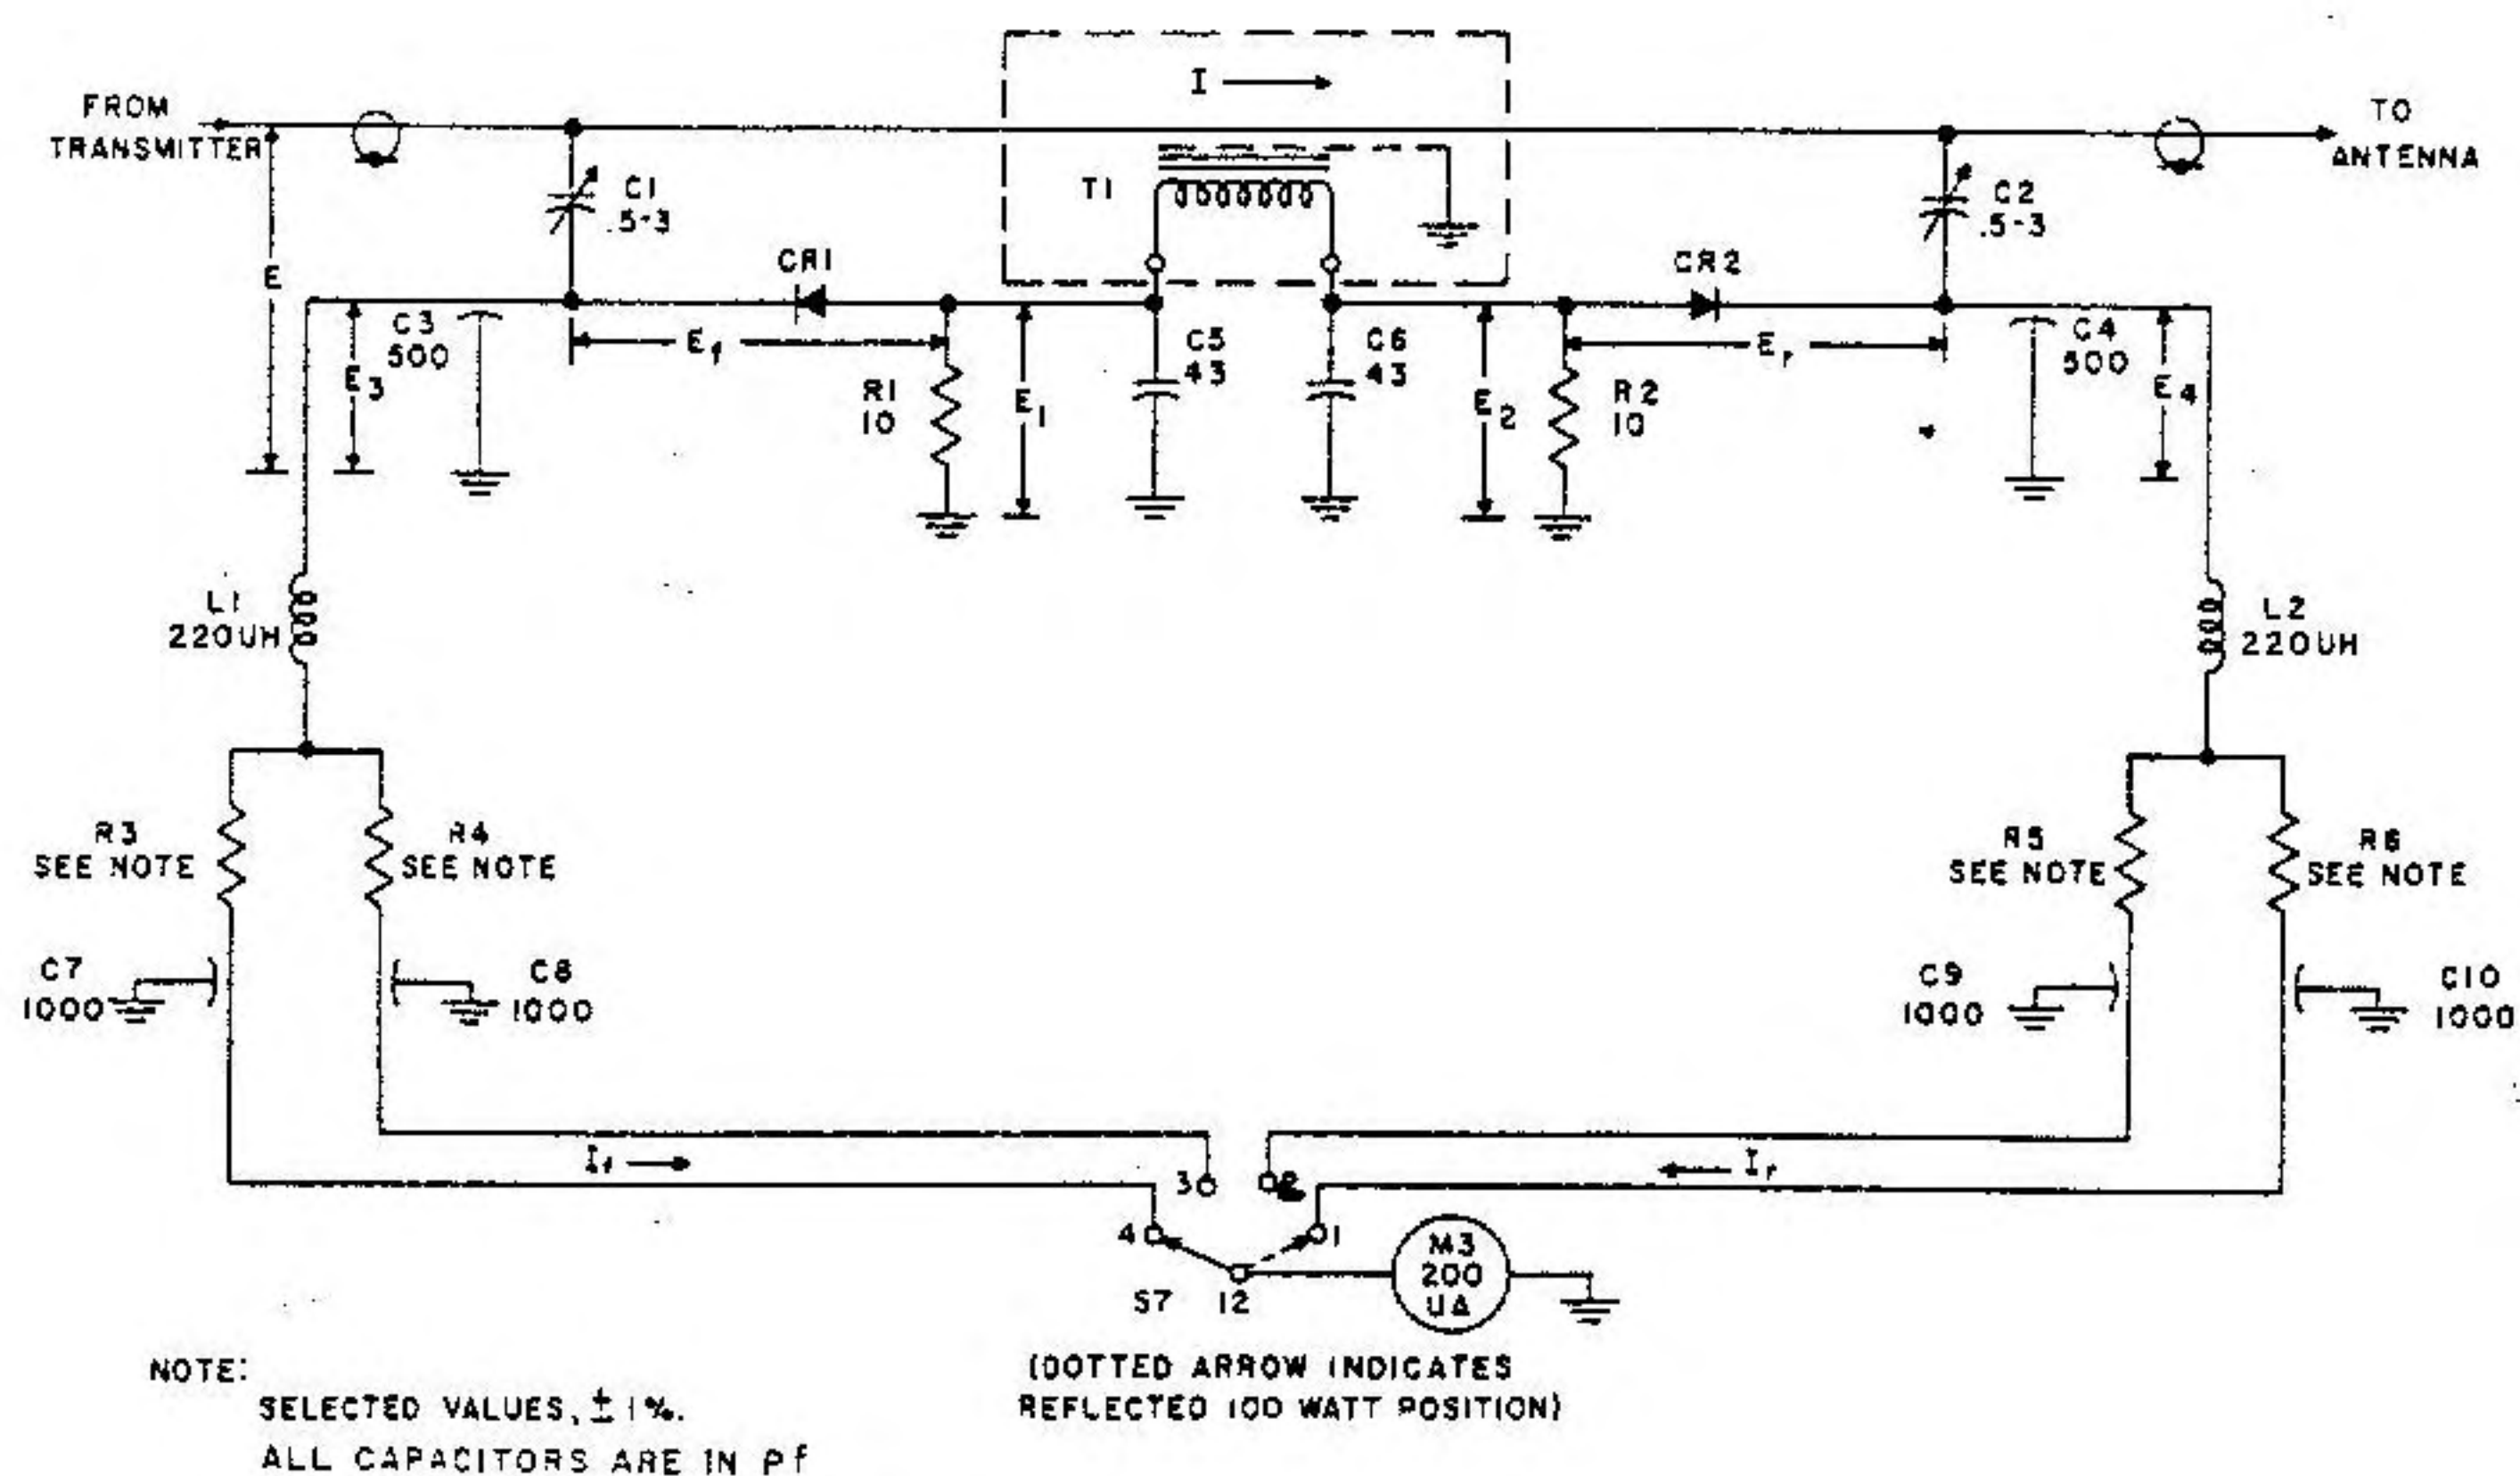

Figure 4-4. - Directional Coupler 2A1, Simplified Schematic Diagram
(4) TAP COARSE TUNE-FINE TUNE. - The operation of the circuit with switch 2S4 on TAP COARSE TUNE-FINE TUNE is the same as for COIL COARSE TUNE-FINE TUNE, except that tap motor 1B3 is operated in conjunction with phase-shift capacitor 1C8 and limit switches 1S13 and 1S14.
(5) TWELVE-POSITION CAPACITOR SWITCH 2S2 AND CAPACITOR SERIES-SHUNT SWITCH 1S9. - For the operation of the 12-position CAPACITOR switch and the CAPACITOR SERIES-SHUNT switch, refer to paragraph 4-2b(1).
(6) DIRECTIONAL COUPLER. - Refer to figure 4-4 for the simplified schematic diagram. Transmission line current I flows through the line center conductor and through the center of a toroid core. The conductor forms the primary and the coil the secondary of a toroidal transformer 2A1T1. Induced toroid current produces a voltage that divides equally across resistors 2A1R1 and 2A1R2. This results in two equal voltages, E_1 and E_2 , across the resistors. Since the junction of resistors 2A1R1 and 2A1R2 is grounded, E_1 and E_2 are opposite in phase and proportional to line current I . Line voltage E_1 is applied across two capacity dividers, 2A1C1-C3 and 2A1C2-C4, resulting in two equal voltages of the same phase, E_3 and E_4 .